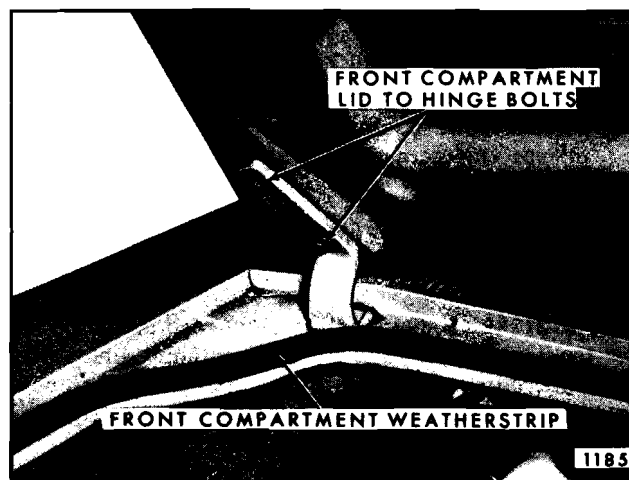

Fig. 5-24—Front Compartment Weather Strip and Lid to Hinge Bolts
3. With the aid of a helper, remove hinge to lid attaching bolts from each hinge and remove lid. (See Fig. 5-24).
- a. To raise rear edge of lid at hinge area, place shim between hinge strap and lid inner panel at rear attaching bolt (Fig. 5-24).
- b. To lower rear edge of lid at hinge area, place shim between hinge strap and lid inner panel at front attaching bolt (Fig. 5-24).